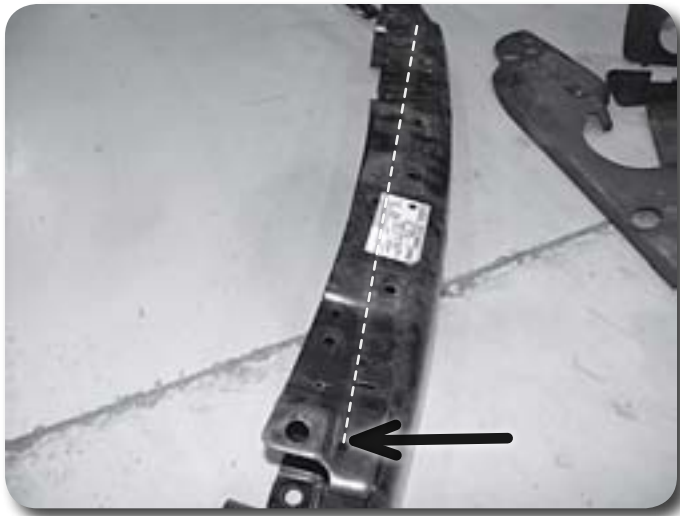

Figure 23
41. Locate the small hole just forward of the BOTTOM mounting holes on the front bumper. Make a cut line from the center of the hole on the driver's side of the bumper to the hole on the passenger's side of the bumper **Figure 23**. This cut will provide clearance for the bumper and the front frame crossmember tube.